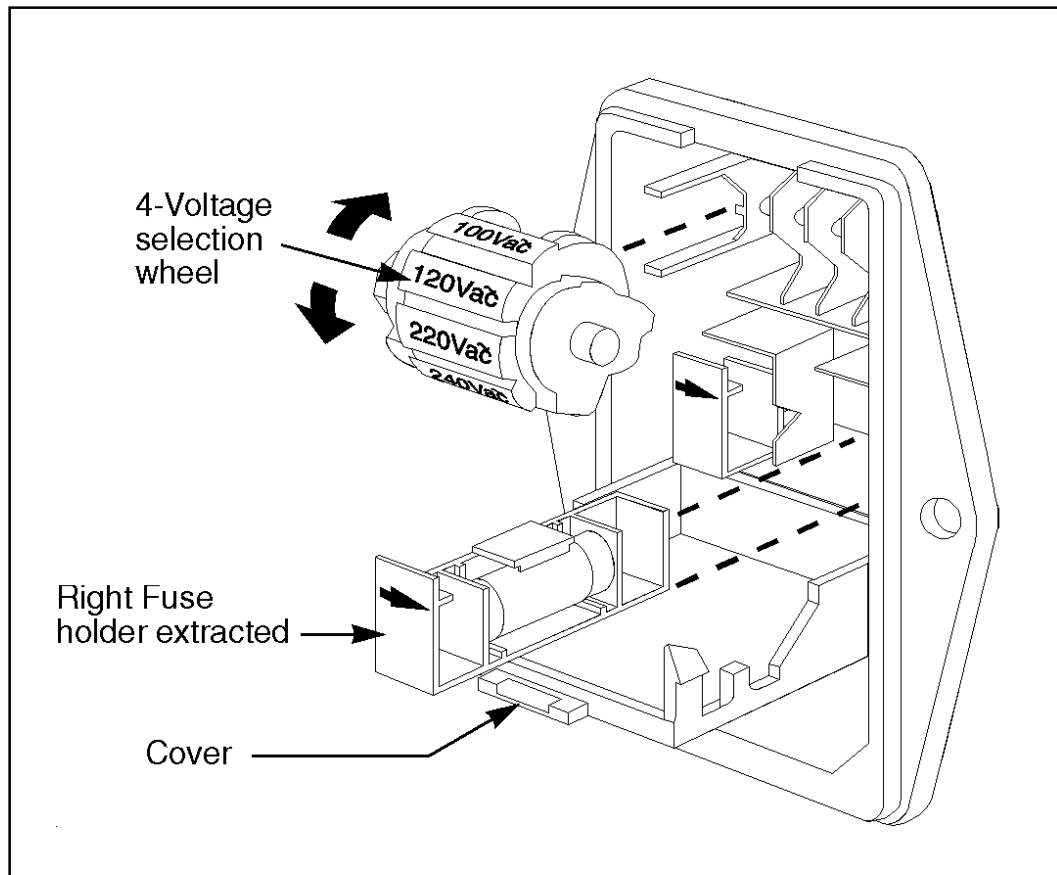

Figure 52 The Line Entry Module
2. Pull the Selection Wheel straight out of the housing (Figure 52). A small bladed screwdriver or similar tool may be required to pry it out of the housing.